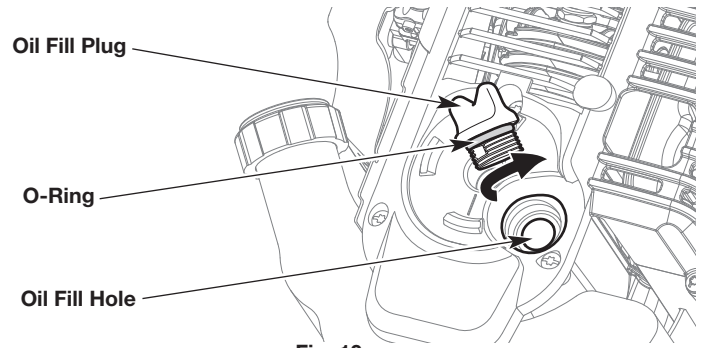

Fig. 10
2. Unscrew the oil fill plug (Fig. 10).
3. Pour the entire container of oil into the oil fill hole (Fig. 10). **DO NOT** overfill. Refer to *Checking the Oil Level*.
5. Make sure the O-ring is in place on the oil fill plug (Fig. 10).